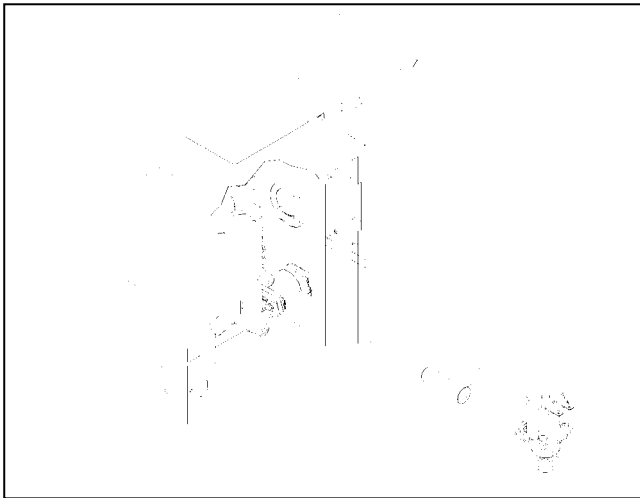

Figure 3 - Install the valve onto the new "T" inside the machine.
4. Inside the machine, install the chocolate valve onto the new "T" (figure 3).